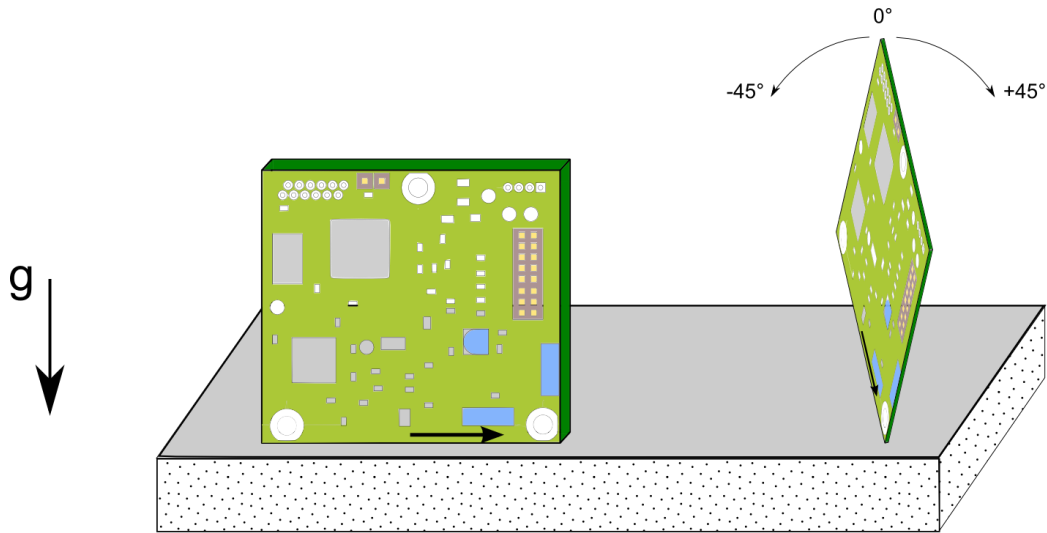

Figure 6-2: Accelerometer Calibration Starting Positions
Figure 6-2 shows the two basic starting positions for Accelerometer Only Calibration. Calibration can occur within the user's system or with the module alone. It is not necessary to place the Prime on a hard surface as shown, but it must be held very still during calibration, and holding it against a hard surface is a way to help ensure this.
- Starting with the Prime as shown on the left in Figure 6-2, rotate the module such that it sits on each of its 6 faces. Take a calibration point on each face.